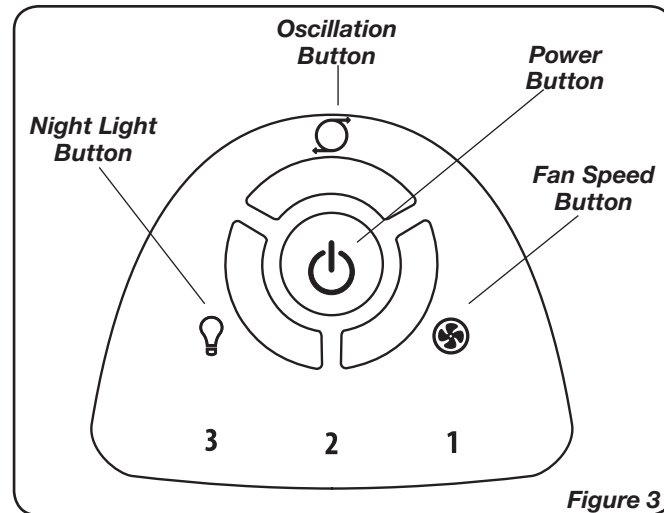
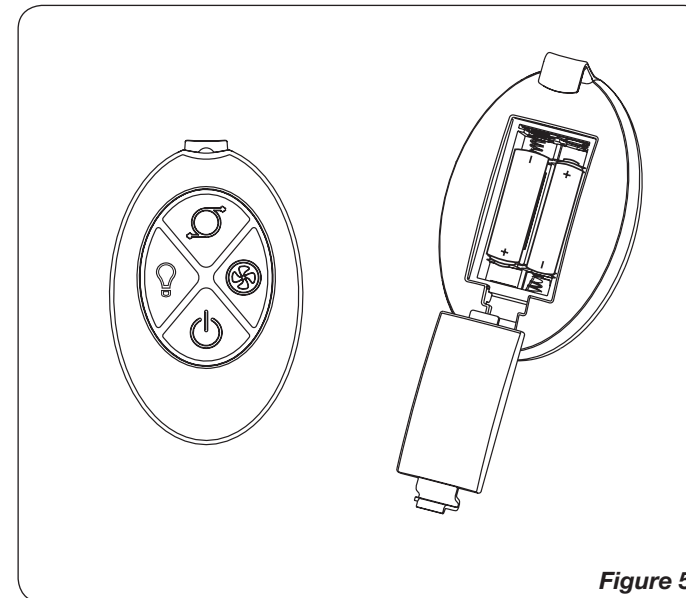

Figure 3
Figure 5
### OPERATION (Figures 3 and 4)
This Fan may be operated by the local controls located on top of the unit (as shown in **Figure 3**) or by the Remote Control (shown in **Figure 5**).
### REMOTE CONTROL (Figures 5 and 6)
1. Install batteries ("AAA") as shown in Figure 5.